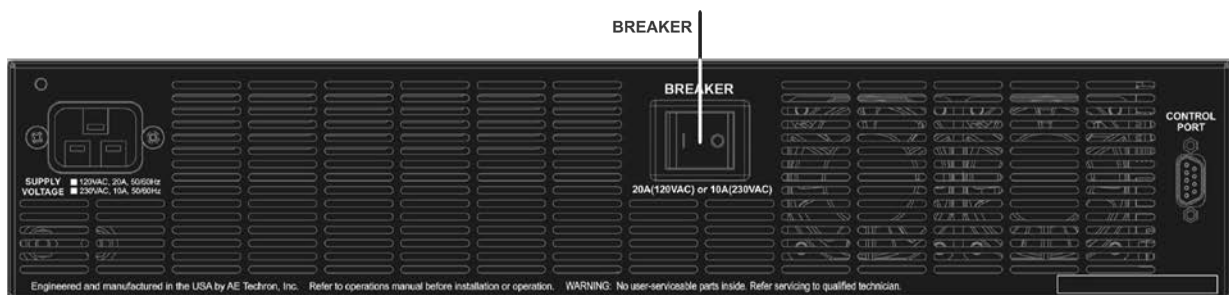

Figure 8.4 – 7136 Breaker Location
1. Locate the circuit breaker on the product's back panel (see **Figure 8.4**).